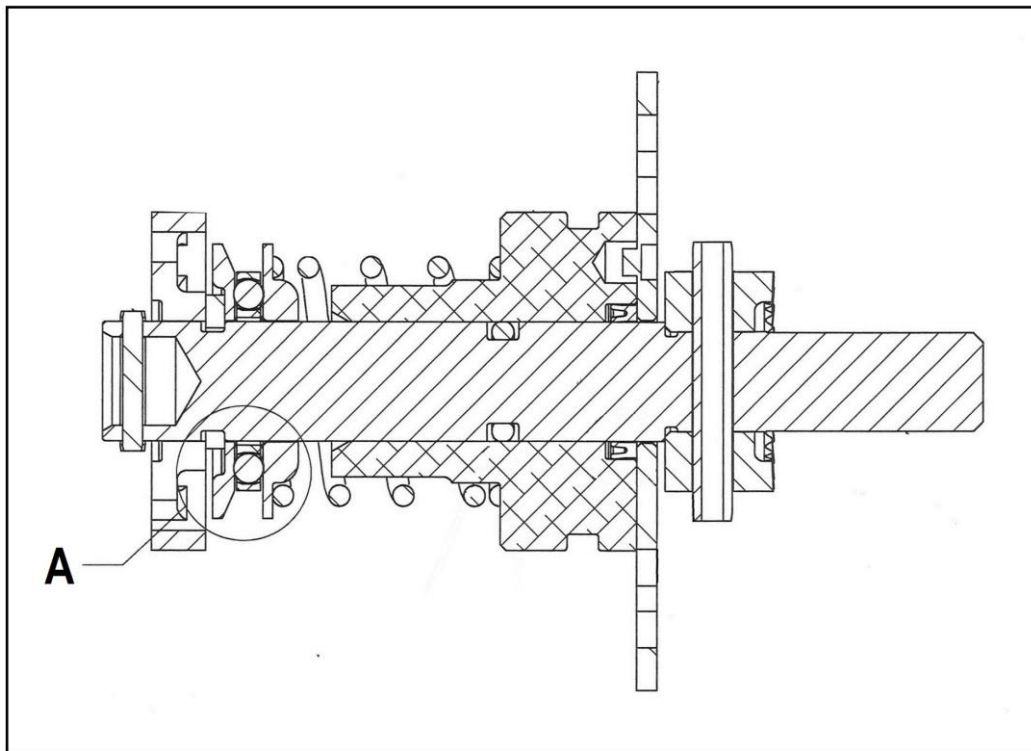

Figure 1, Mixture Valve Lever Assembly
8. Apply a thin coating of Krytox or Braycote grease to the valve shafts and inside surface of the bushings using a Q-Tip swab. Slide the shafts into the bushings, then withdraw them part way. Wipe away any grease that extruded from between the shafts and bushings. The only grease that is inside the bushing should be left in the assembly. Wipe away excess grease in the bearing cavity (idle bushing) and above the spring seat (mixture bushing). Lubricate the bearing assembly with a drop or two of light oil. Complete assembly of the valves as shown in Figures 1, 2 and 3.